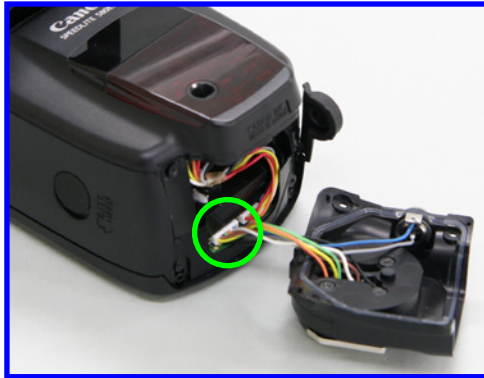

Fig. 004 Accessory Shoe Case Ass'y Connector
- ① Unscrew the 4 screws to remove the Accessory Shoe Cover.
- ② Lift the PC Terminal cap and detach the Accessory Shoe Case Ass'y.
- ③ Remove the connector. (Fig. 004)